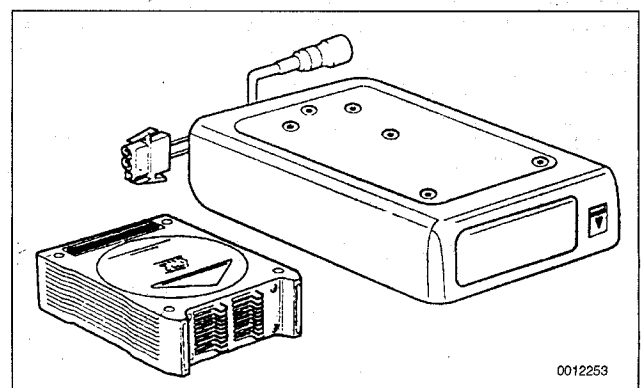

Fig. 2. Optional multi-disc compact disc changer and disc cartridge.
- A multi-disc compact disc changer, for which the vehicle and the radio are prewired. See Fig. 2.